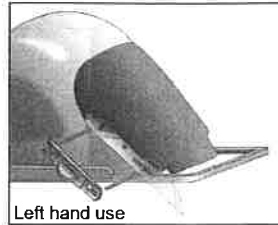

Fig. 1
- 3 Replace the Blade Cover Plate with arrow pointing down, and reattach the blade holding knob (Fig. 1). If you remove the Scaled Cutting Beam, replace it now.
Determine left or right hand use. Blade on the right side is for left handed use. Blade on the left side is for right handed use. Remove yellow Blade Clip by pushing the clip forward. Place the blade in the blade depression, matching the blade tip with the angle in the indentation. Replace the Blade Clip, taking care to position the open end of the clip to the top. Slide upwards until the clip snaps into place (Fig. 1).
- 3 Replace the Blade Clip, taking care to position the open end of the clip to the top. Slide upwards until the clip snaps into place (Fig. 1).